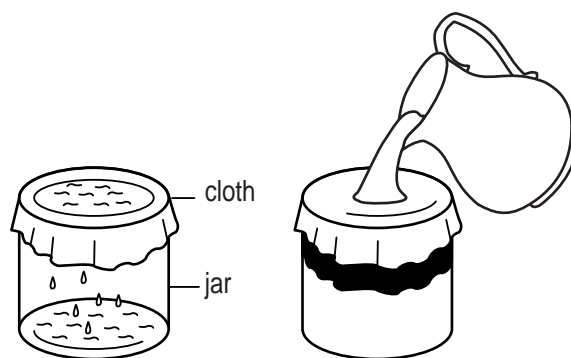

Figure 1.2: Filtration experiment.
- Take a clean white cloth and use it to cover the mouth of the container as shown in the diagram (*Figure 1.2*).